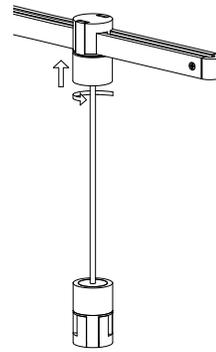

Fig. 10
3. Press the **Hanger Rod** up against the Hanger Hub and screw in the **Hanger sleeve**. Be sure that the brass contacts on the Power Bar Hanger Hub are touching those on the Hanger Rod. (Fig. 10). NOTE: Do not fully tighten.